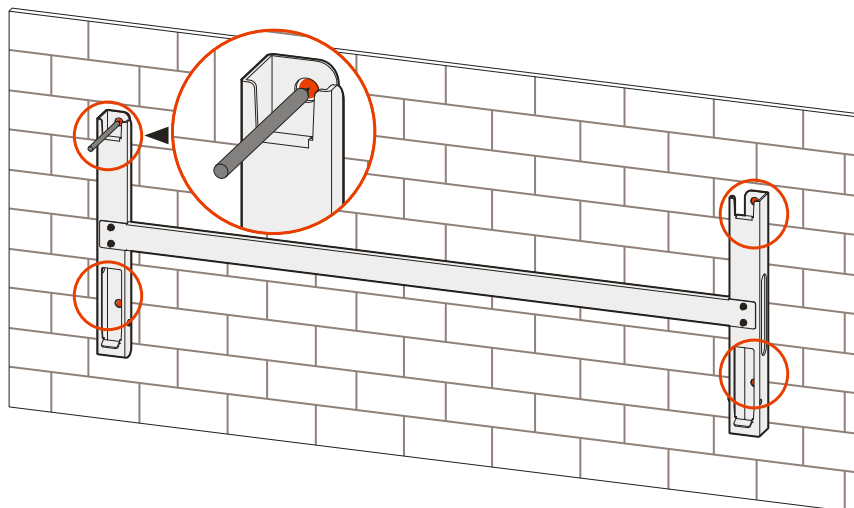

Figure3-19 Mark the mounting holes position
- Step 2 Place the assembled installation holder onto the installation site, use a horizontal ruler to adjust the angle, and mark the position of the hole on the wall, as shown in Figure3-19.